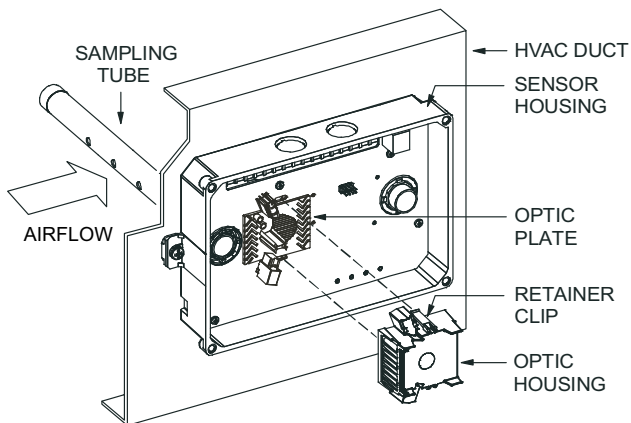

Fig. 39 — Sensor Cleaning Diagram
1. Disconnect power from the duct detector then remove the sensor’s cover. See Fig. 39.